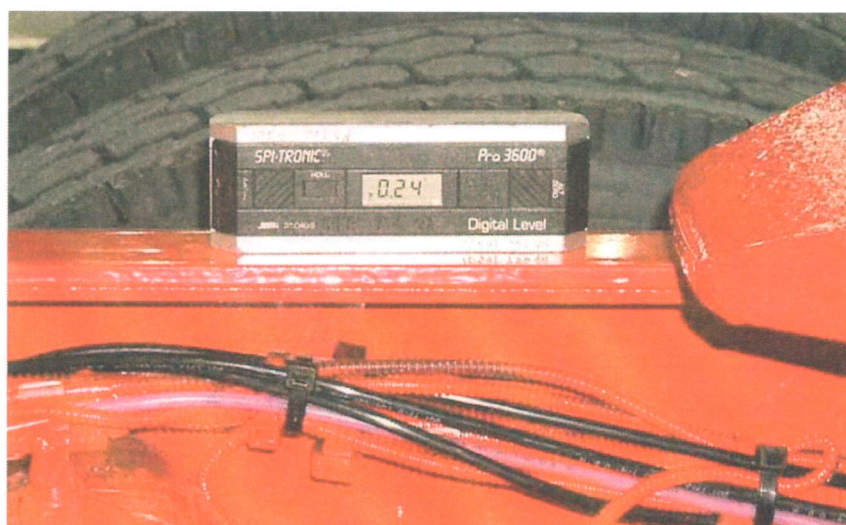

Figure 8 Illustration of Inclinometer on the Left-Hand Frame Rail
17. Zero the inclinometer to the LH frame rail with the face of the inclinometer oriented inboard (i.e., toward the passenger side of the chassis) as shown in Figure 8 .